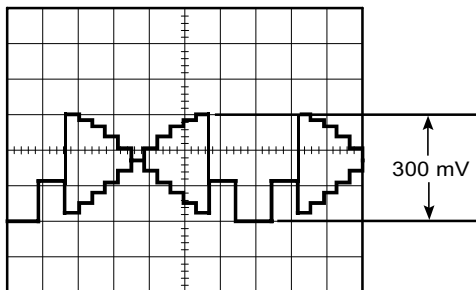

Fig. 4-7
- Set the Lens Iris so that the CDS OUT signal level at the pin 1 of CN2 becomes 300 mV as shown in Fig. 4-7 (for the Manual Lens).
- Adjust data with the **ARROW** keys so that the CDS OUT signal level becomes 300 mV as shown in Fig. 4-7 (for ALC Lens).